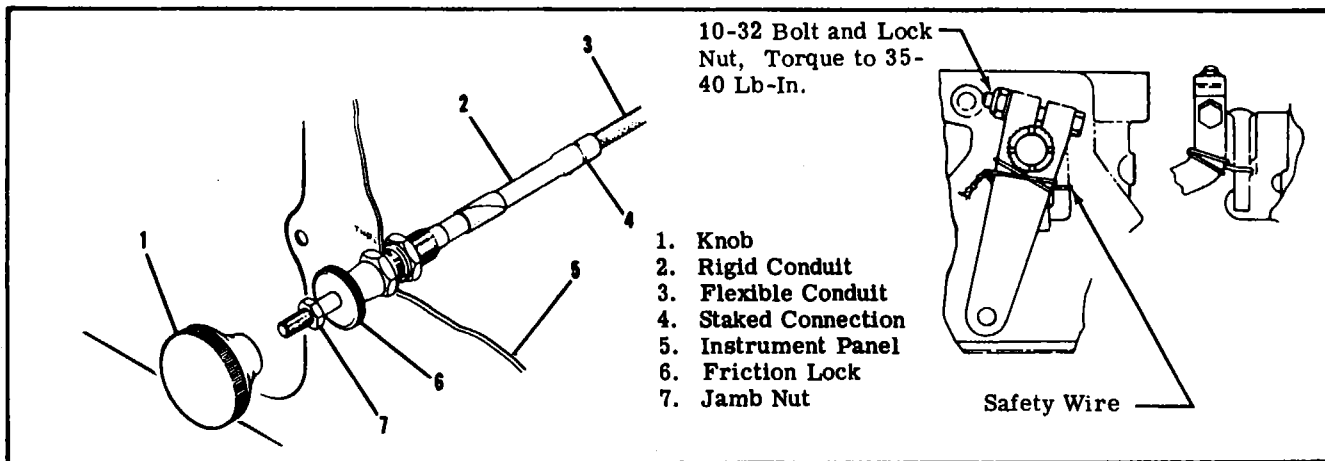

Figure 11-8. Throttle Control and Throttle Arm to Idle Stop Attachment
Before rigging throttle control shown in figure 11-8, check that staked connection (4) between rigid conduit (2) and flexible conduit (3) is secure. If any indication of looseness or breakage is apparent, replace the throttle control before continuing with the rigging procedure.